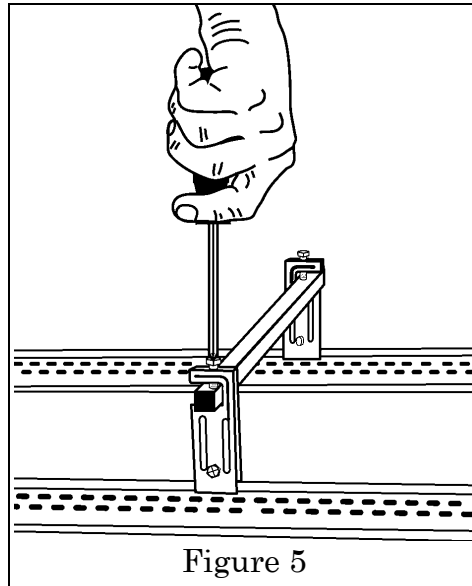
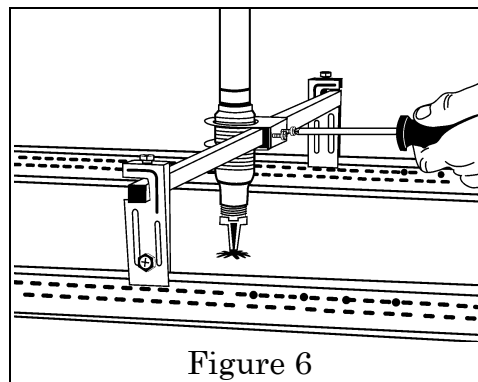

Figure 5
Figure 6
Step 5: Attach the ceiling grid clamps to the rails of the suspended ceiling, then attach the support bar to the ceiling grid clamps. *Figure 5.* Then attach the reducer to the support bar using the reducer clamp. *Figure 6.* Tightening torque for screws in ceiling grid clamps and reducer clamp: 4.1 ft-lbs (5.5 Nm).